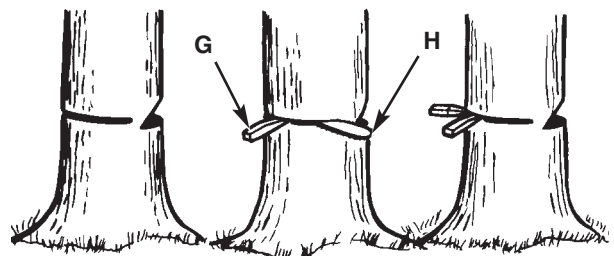

Fig. 16
1. Use wooden or plastic wedges (G) to prevent binding the bar or chain (H) in the cut. Wedges also control felling (Fig. 16).